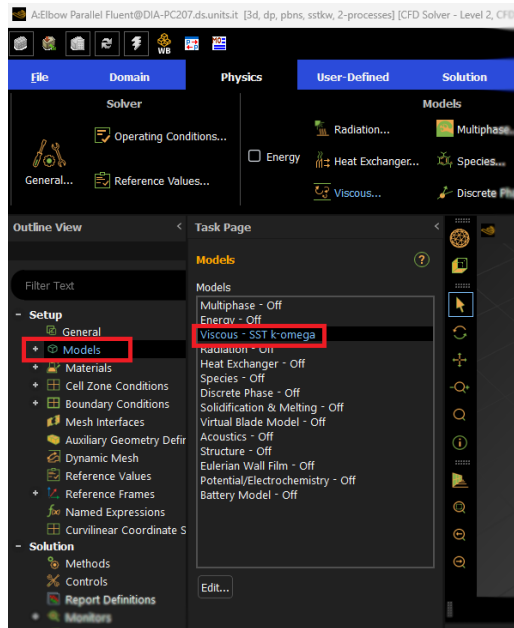
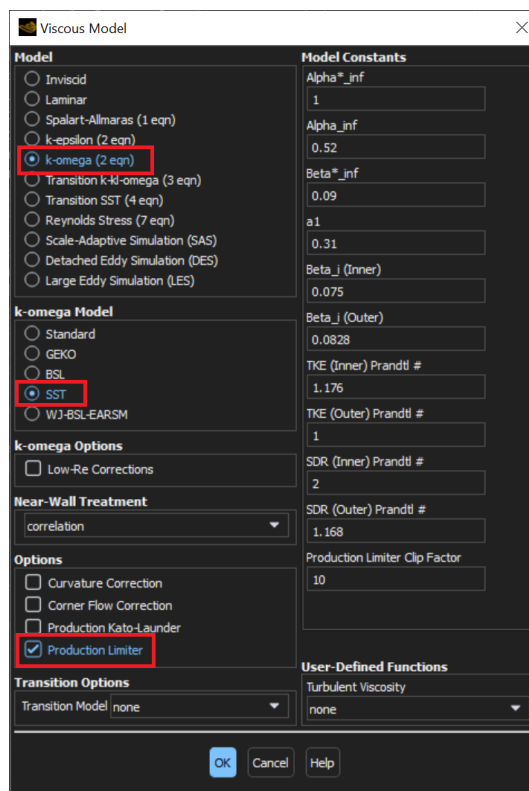

Figure 43: Checking the active models in Fluent.
Figure 44: Set the viscous model in Fluent.
3. Click *Models* in the *Setup* tree branch on the left, and check that in the Models window that will appear, all the options are set to *off*, but the *Viscous* model, that should be set to *SST k-omega*, as shown in figure 43. If this is not the case, clicking on *Viscous* under the Models tab of the ribbon, you will be able to select the appropriate turbulence model for our problem, as illustrated in figure 44. Please note that, since in this case there is not heat transfer, the *Energy equation* entry should be set to off.